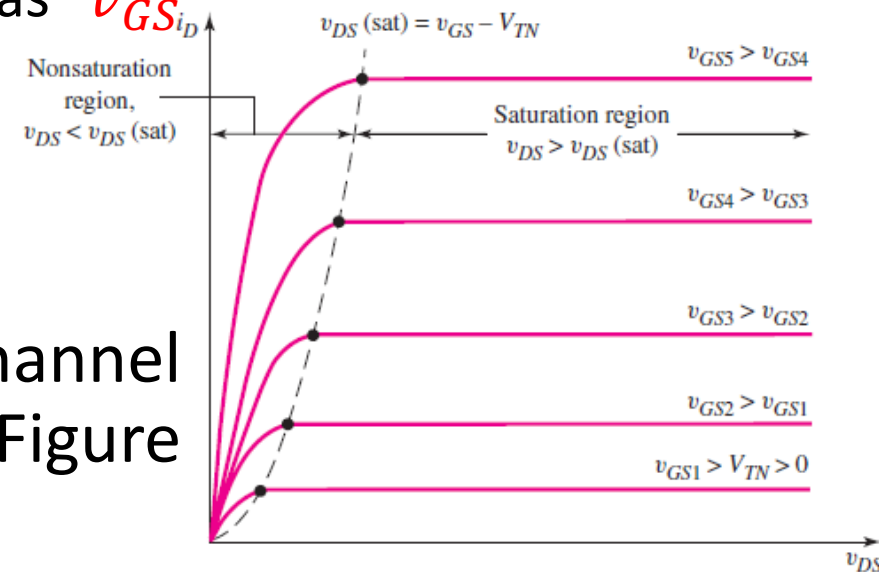

Figure 3.10
- A family of curves is generated for this n-channel enhancement mode MOSFET as shown in Figure 3.10.